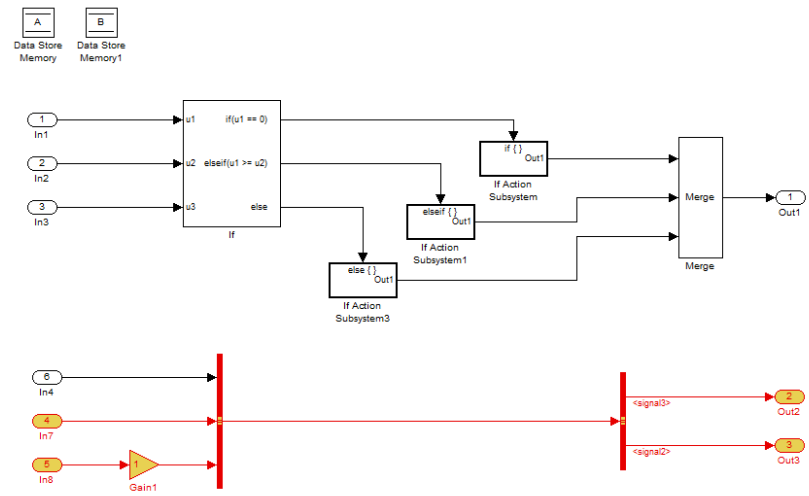

Figure 5: Resulting model after **Coreach From Selected** operation
3. Let us perform a coreachability analysis to find all the parts of the model which the Outport blocks Out2 and Out3 are dependent on. To do this, select both blocks, right-click on them, and select the **Coreach From Selected** option. The resulting model is shown in Figure 5. Blocks Out2 and Out3 are dependent on the Inport block In7 and In8 only, and it is interesting to note that In6 has no impact in the model.